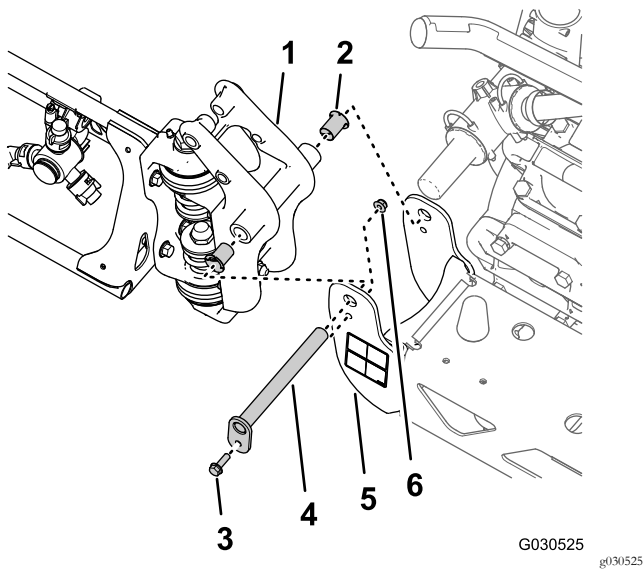

Figure 65
- Remove the flange bolt (5/16 x 1 inch) and flange locknut (5/16 inch) securing the pivot pin to the pivot bracket (Figure 65).
- Remove the pivot pin from the pivot bracket for the center boom section and the pivot fitting for the outer boom section (Figure 65).
- Separate the outer boom section from the center boom section and remove outer section from the machine (Figure 65).
- Remove the 2 nylon-flange bushings from the pivot fitting of the outer boom section (Figure 65).